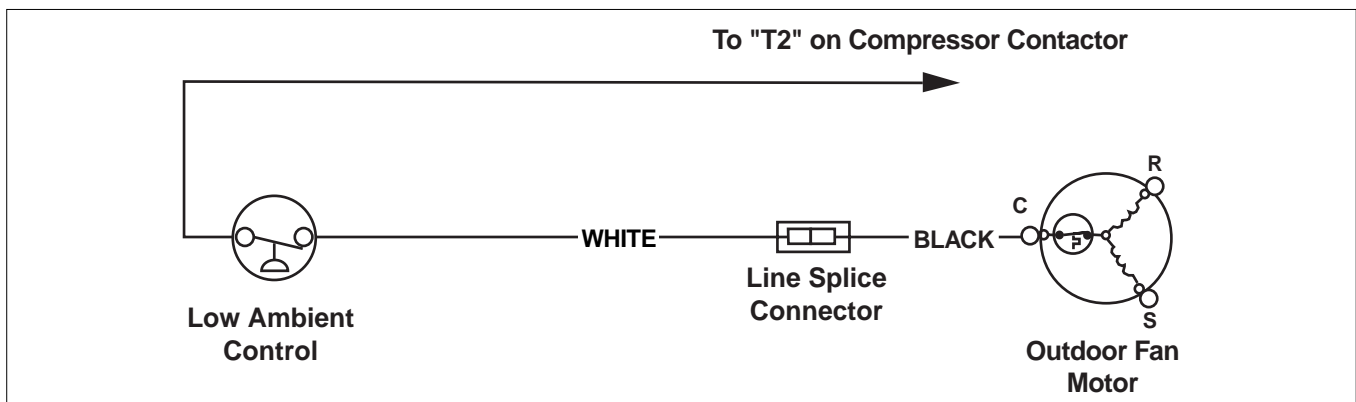

Figure 1. Single Package Air Conditioner Low Ambient Control Kit
- c) Connect the other pressure switch lead to "T2" on the contactor. (See Figure 1)